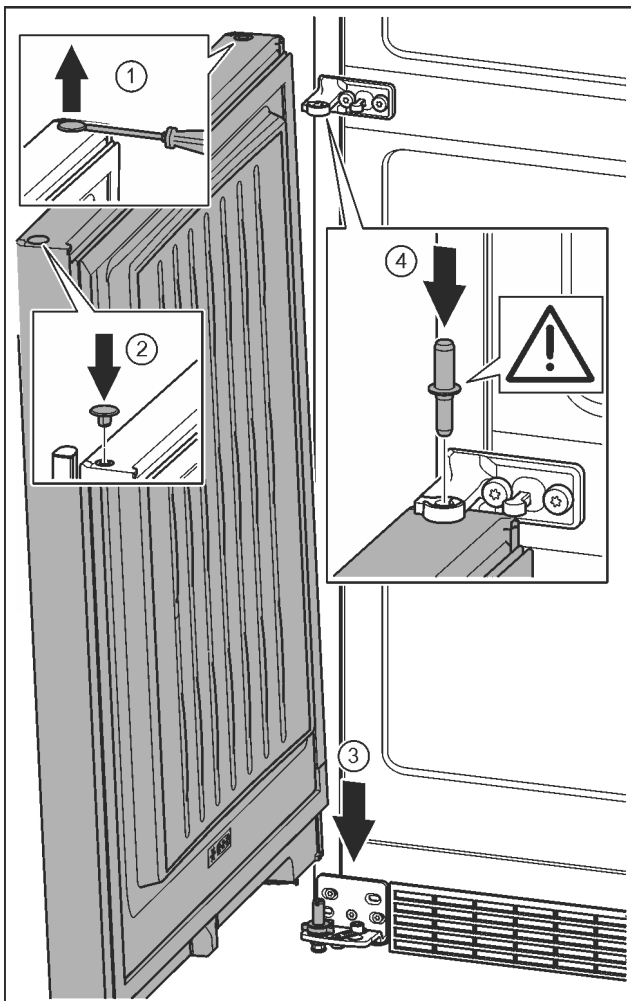

Fig. 23
- ▶ Carefully lift up the plugs with a slotted screwdriver and remove them. Fig. 23 (1)
- ▶ Insert the plugs again on the other side of the door. Fig. 23 (2)
- ▶ Position the door from above onto the lower bearing pins. Fig. 23 (3)
- ▶ Insert the centre bearing pin through the centre bearing bracket into the lower door. Make sure that the catch mechanism is pointing to the rear. Fig. 23 (4)